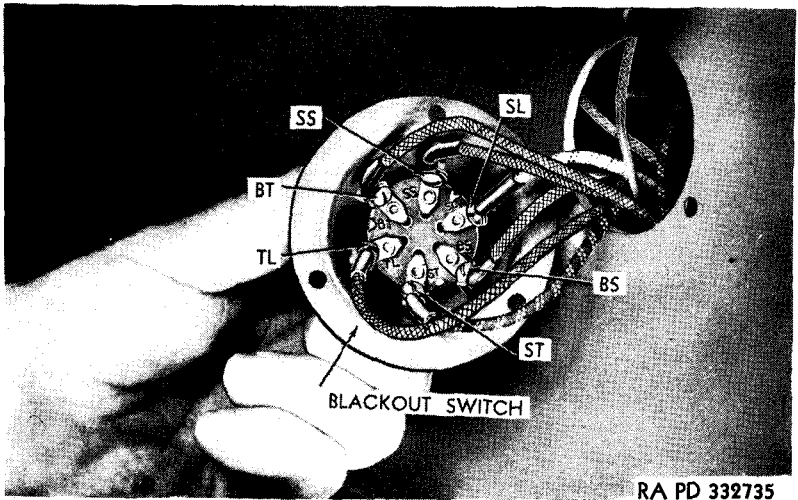

Figure 51—Blackout Switch
a. **Removal** (fig. 51). Remove attaching screws, and pull switch away from body. Remove attaching nuts holding cable terminals, and remove cables from switch.
b. **Installation** (fig. 51). Connect wire terminals to blackout switch connections with nuts from switch terminals. Terminals must be clean and securely fastened. They are stamped with letters as shown on wiring diagram (fig. 43). Attach switch to body and junction box (fig. 47).